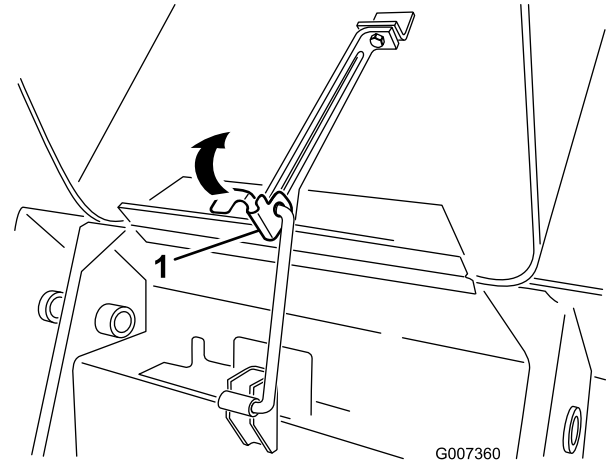

Figure 27
1. Lift up on the tab securing the prop-rod (Figure 27)